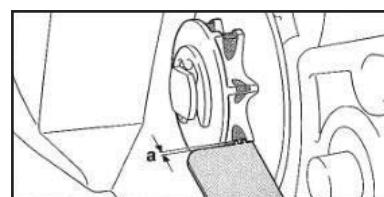

Fig. 8
**Checking the chain wheel (Fig. 8)**
4. Measure the depth of the chain wheel groove using a depth gauge. (Fig. 8)